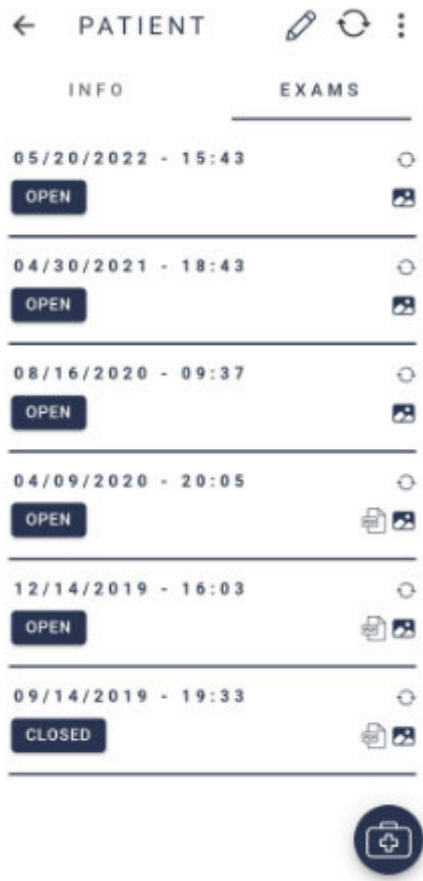

Figure 46: List of patient exams.
Patient progression is a function of temporal analysis of a patient's evolution. To generate it, enter the list of patient exams, 3.2.1.1.2.3 Exams, click on the symbol , Figure 46, under “Patient Progression”, Figure 47, on the symbol  to view the images of this exam, Figure 48, click and hold to select an image, Figure 49 - item 1, and click to generate the symbol , Figure 49 - item 2. Images from different areas of the retina can be chosen, but they must be from the same eye. Confirm with “Create”, Figure 50, and wait, Figure 51.